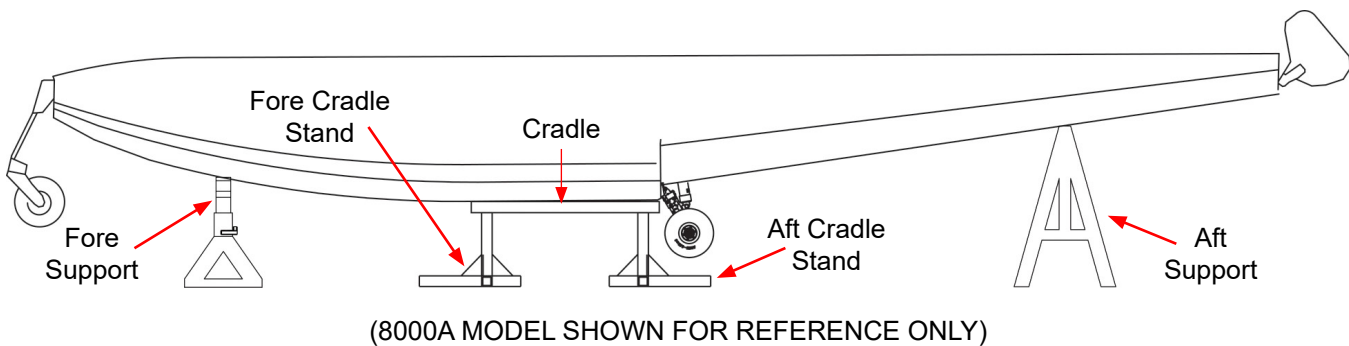

FIGURE 1.4 FLOAT SECURING LOCATIONS OVERVIEW
1. Raise aircraft high enough to place float cradle under floats as shown in Figure 1.4.
2. Lower aircraft onto float cradle as shown in Figure 1.4.
3. Place fore and aft supports as shown in Figure 1.3 and Figure 1.4.
4. Secure floats with fore and aft supports as shown in Figure 1.3 and Figure 1.4.
5. Remove all fore and aft supports as shown in Figure 1.3 and Figure 1.4.